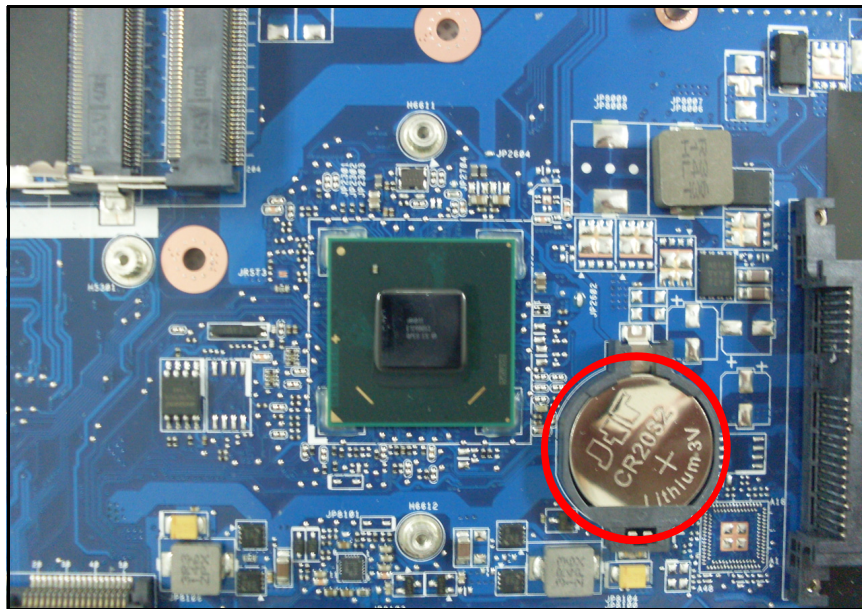

Figure 5-3. RTC Battery
3. Disconnect the RTC Battery (Figure 5-3).